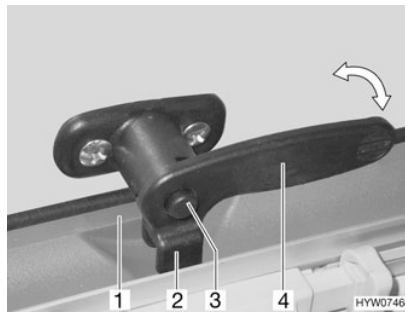

Fig. 20 Catch lever with safety knob in "closed" position
- Press the safety knob (Fig. 20,3) and keep it pressed.
- Turn the catch lever (Fig. 20,4) a quarter turn towards the centre of the window.
- Turn the catch lever (Fig. 20,4) a quarter turn towards the window frame. The fork (Fig. 20,2) on the catch lever is entirely on the inner side of the window catch (Fig. 20,1).